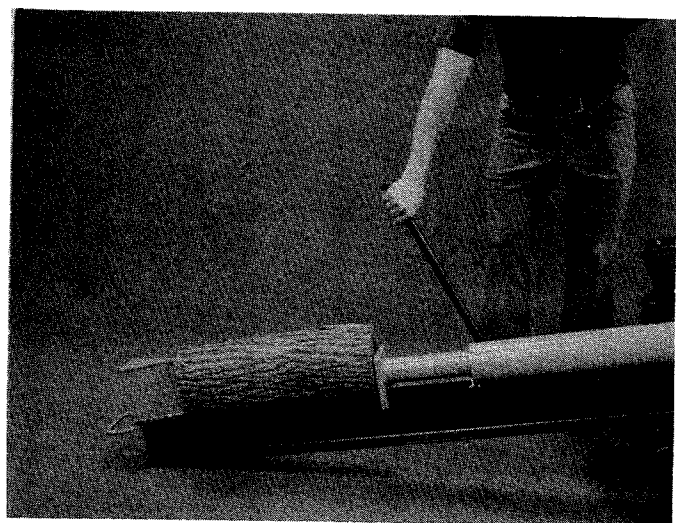

FIGURE 12
- F. Remove your hand from the log and step behind the ram. See figure 12.